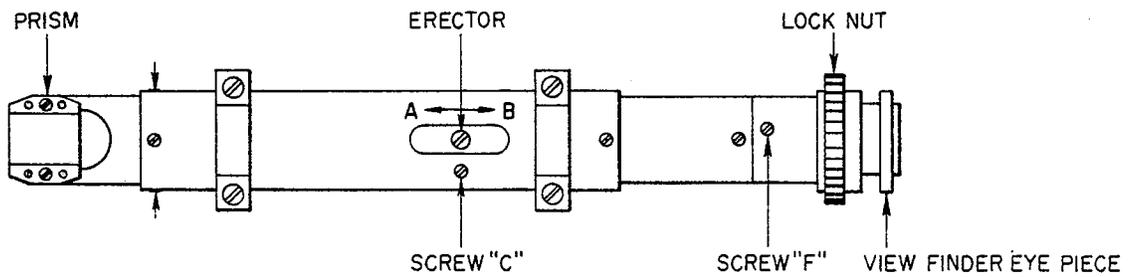

Fig. 12 View Finder
- Loosen Screw "C" (shown in Fig. 12) and adjust erector so that the vertical stripe on resolution chart is clearly visible. At this time the monitor picture must be focused. Move erector position between points A and B (Fig. 12) until perfectly focused points are found and tighten Screw "C". (Ref. Fig. 15.)